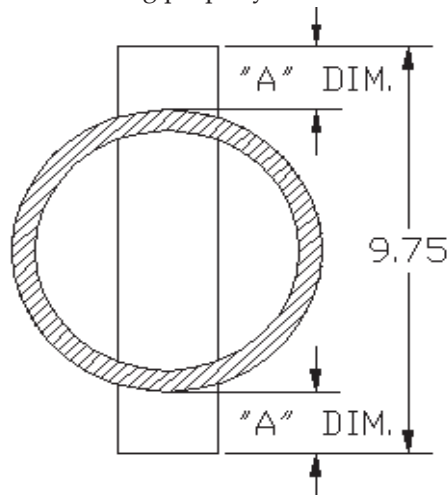

Fig. 1
1. For 6.75" main shaft diameter, measure from the top of the main shaft along the OEM arm 1.5" +/- 1/8". (See Fig. 1, "A" dim.)
2. For 7.50" main shaft diameter, measure from the top of the main shaft along the OEM arm 1.125" +/- 1/8". (See Fig. 1, "A" dim.)